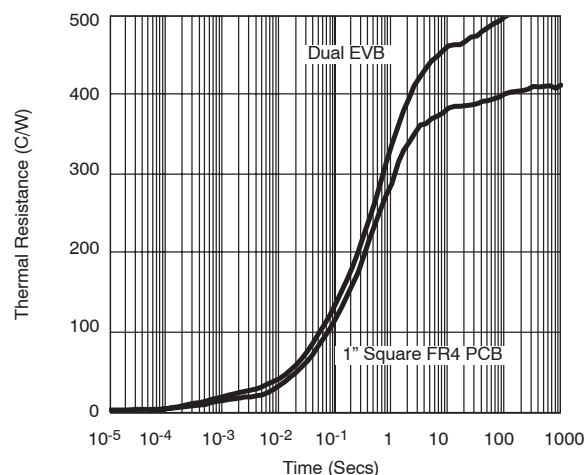

FIGURE 2. Comparison of Dual SC70-6 on EVB and 1" Square FR4 PCB.
To aid comparison further, Figure 2 illustrates the dual-channel SC-70 thermal performance on two different board sizes and two different pad patterns. The results display the thermal performance out to steady state. The measured steady state values of  $R\theta_{JA}$  for the dual 6-pin SC-70 are as follows:
1) Minimum recommended pad pattern (see Figure 2) on the EVB of 0.5 inches x 0.6 inches.	518 °C/W